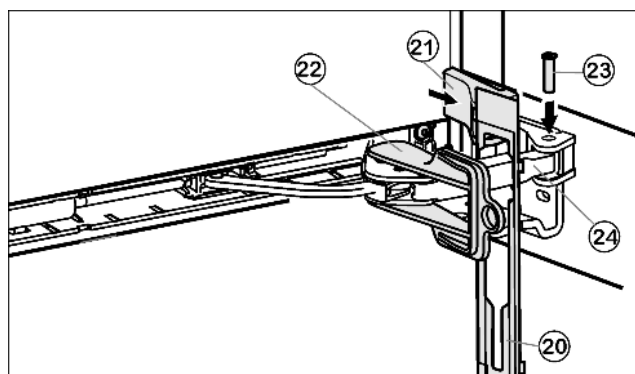

Fig. 16
- ▶ Attach the faceplate *Fig. 16 (20)* to the soft stop bracket so that the catches face forwards and the front faces the appliance.
- ▶ Draw the soft stop bracket *Fig. 16 (24)* towards the bearing element and insert the pin *Fig. 16 (23)* from above so that the square is seated in the depression.
- ▶ Attach and engage the cover *Fig. 16 (21)*.
- ▶ Twist the safety lock *Fig. 16 (22)* for removal.
- ▶ Snap the faceplate *Fig. 16 (20)* onto the door.